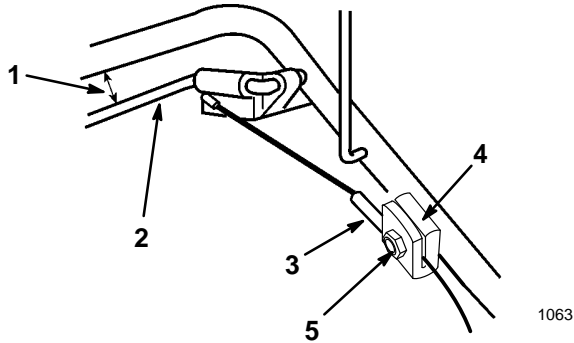

Figure 30
1. Loosen the nut on the cable support (Fig. 30).
2. Hold the self-propel bail 1 to 1 1/2 in. (25 to 38 mm) from the handle (Fig. 30).